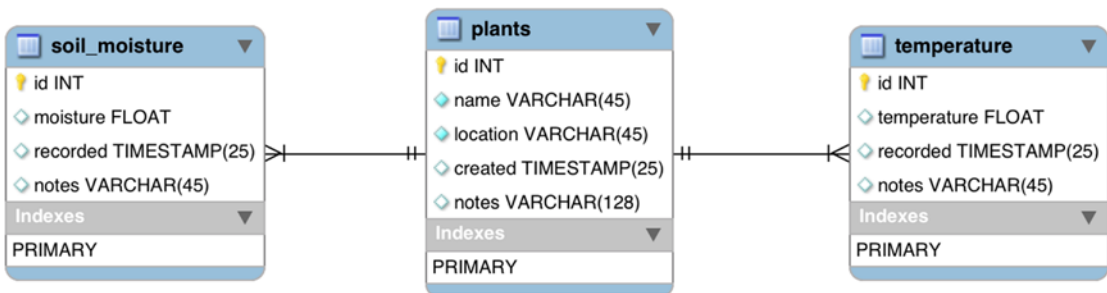

Figure 4-2. Collecting data from multiple sensors at different rates
When you encounter situations where storing the sensor data as a single row will obscure knowledge, you are going to need to divide your data over two tables instead of one. Figure 4-2 shows an example of a solution where we can save sensor data at different rates but still associate it with a single thing.
■ **Note** The drawing in Figure 4-2 was taken from the visual database editor in MySQL Workbench (<http://dev.mysql.com/downloads/workbench/>).